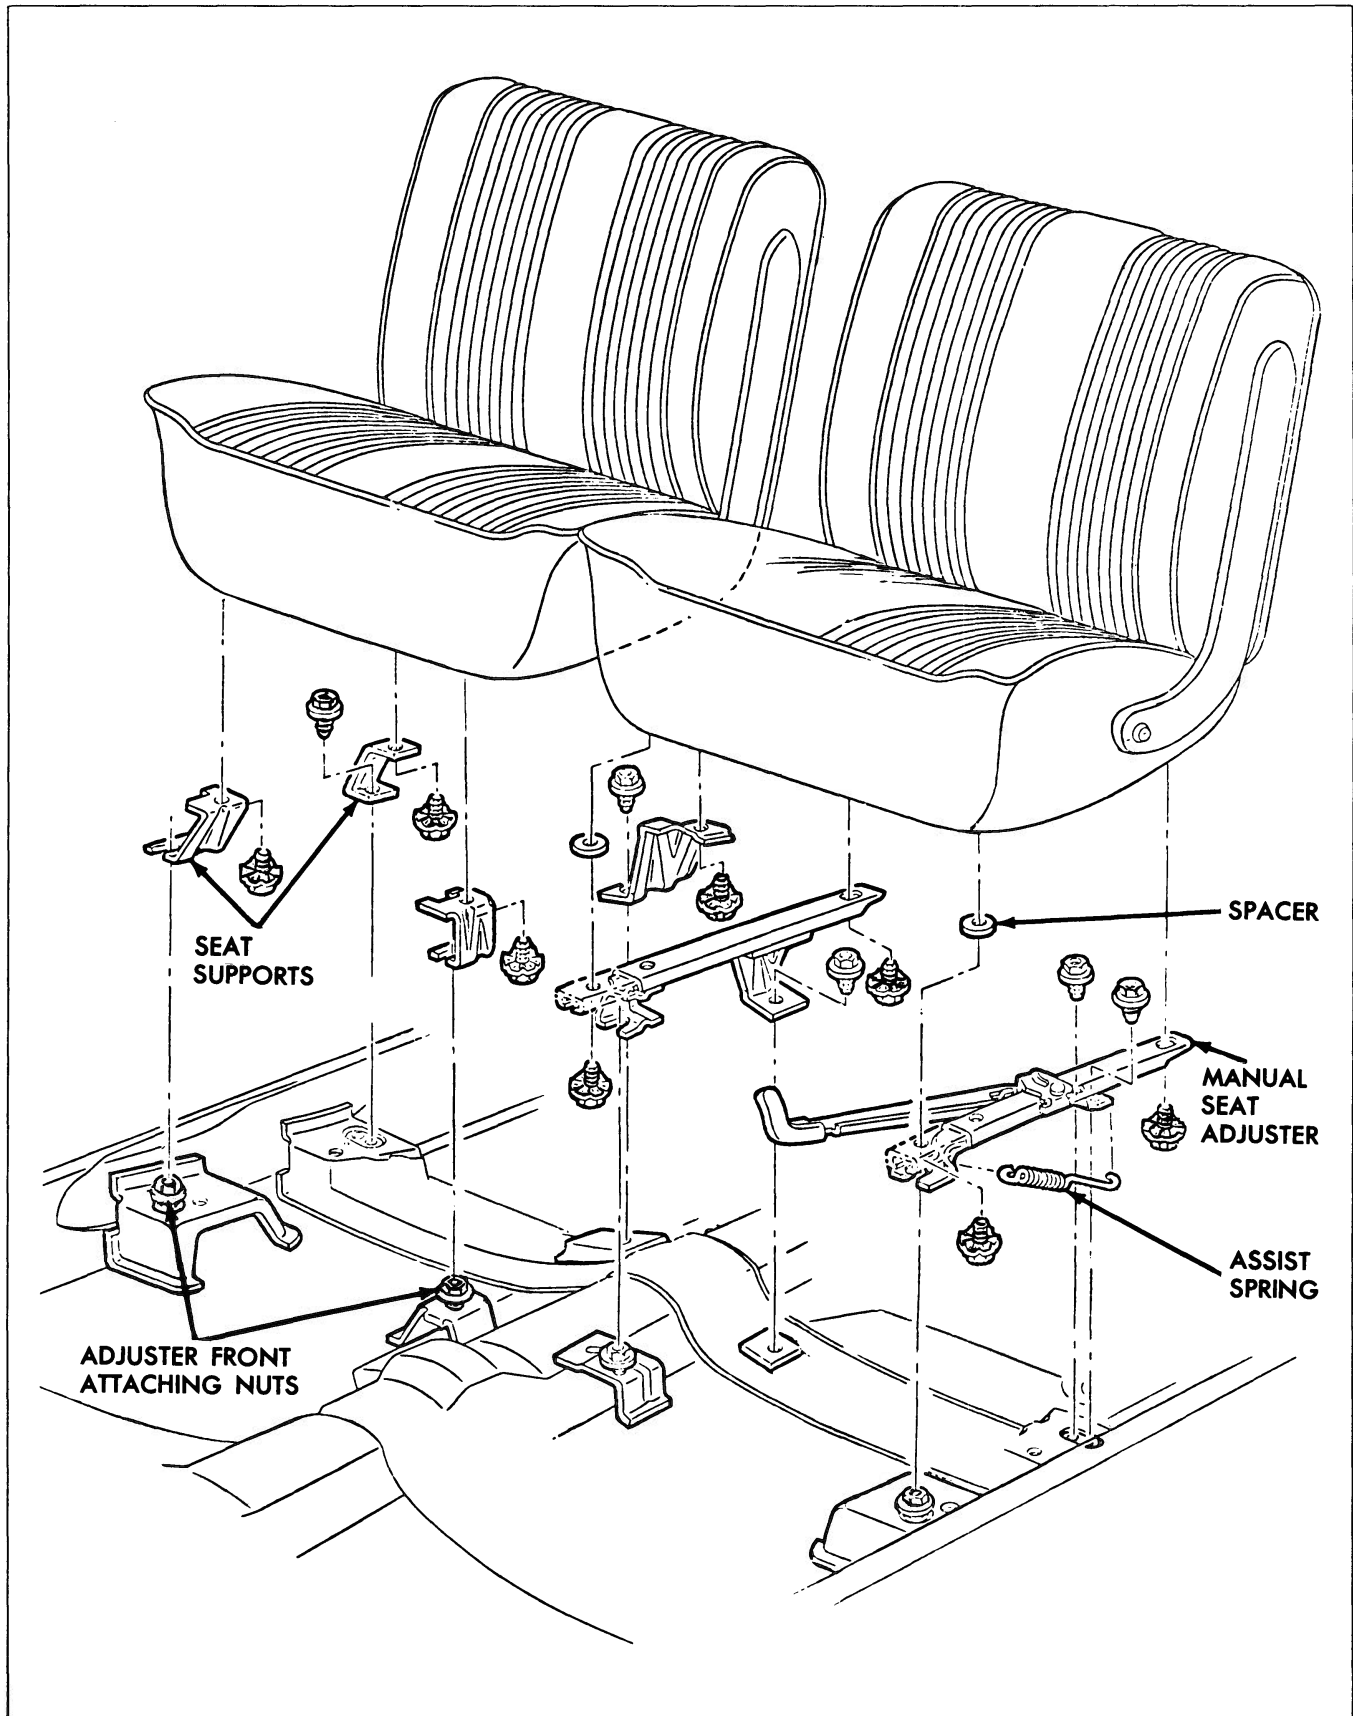

Fig. 23-1 Bucket Seat Assemblies - Typical "67" Style
The driver's seat assembly in Fig. 23-1 is typical of all "67" styles. The passenger's seat assembly in Fig. 23-1 is typical of all styles equipped with stationary seat supports.
All seat adjusters and stationary supports are bolted to the seat bottom frame; however, a combination of bolts and/or nuts are used to retain the adjusters or stationary supports to the floor pan assembly (Figs. 23-1, 23-2 and 23-3).
3. Remove bolt securing affected support to seat bottom frame (Fig. 23-1) and remove support from seat assembly.